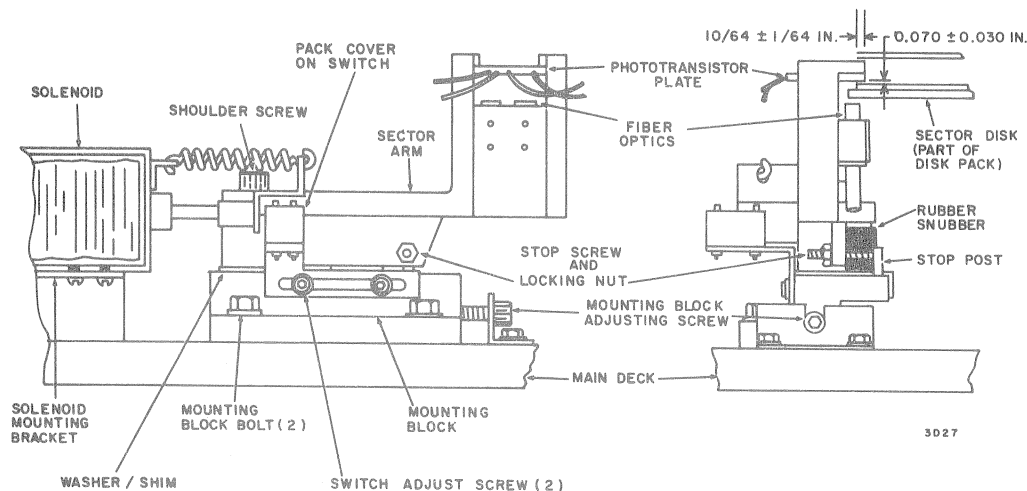

Figure 6-10. Sector/Presector Radial Adjustment
7. Using a plastic feeler gage, check the  $0.070 \pm 0.030$  inch clearance (Figure 6-10).
8. If the requirement is not met, remove the shoulder screw (Figure 6-10) and add shims (p/n according to Illustrated Parts List) between the top of the mounting block and the washer.
11. Using a 6-inch scale, check the  $10/64 \pm 1/64$  inch clearance (Figure 6-10).
14. Move the sector/presector photocell toward the disk pack until the stop post is encountered (Figure 6-10). At this position the solenoid armature should be bottomed out. If this requirement is not met, loosen the screws in the solenoid mounting bracket and reposition the solenoid.
15. Position the sector arm against the stop post. At this position the pack cover on switch should be actuated by the sector arm (Figure 6-10). The sector arm must not touch the body of the switch. If this condition is not met, loosen the two screws securing the switch mounting bracket and reposition the switch.
33. Select one of the heads. Loosen the two bolts securing the sector/presector photocell mounting block to the disk drive main deck (Figure 6-10). Turn the mounting block adjusting screw under the solenoid arm clockwise to decrease or counterclockwise to increase the period. Stop adjusting when the period of the selected head has been changed by the amount and in the direction determined in step 32. Tighten the mounting block bolts and recheck the adjustment.